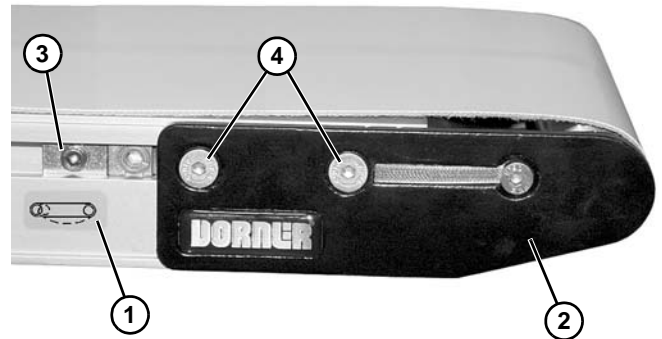

Figure 30
1. On tension end of the conveyor, identified with  a label (Figure 30, item 1), push in head plate assembly (Figure 30, item 2):
- a. On both sides of conveyor, loosen and move cam tracking assemblies (Figure 30, item 3) (if equipped) away from head plates.
- b. Loosen fastening screws (Figure 30, item 4) and push head plate assembly inward.